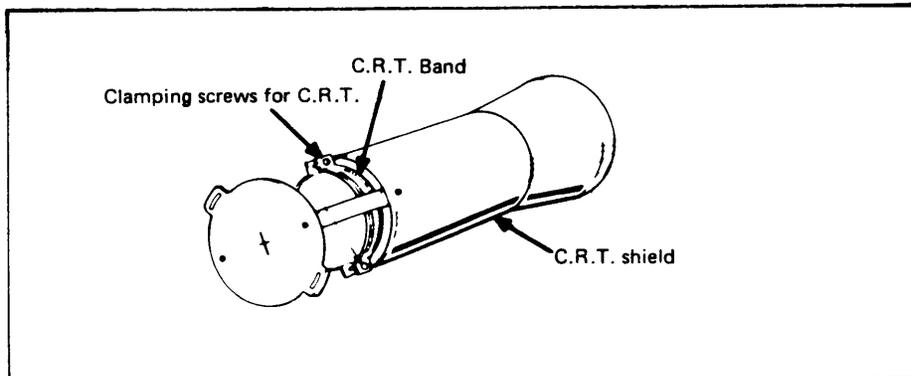

Fig. 12. CRT Removal and Replacement.
4. Remove the entire CRT assembly from chassis, including the mounting plate and CRT shield (Fig. 12).
5. Loosen the two clamping screws from the CRT band (Fig. 12) and slide the CRT from the shield.